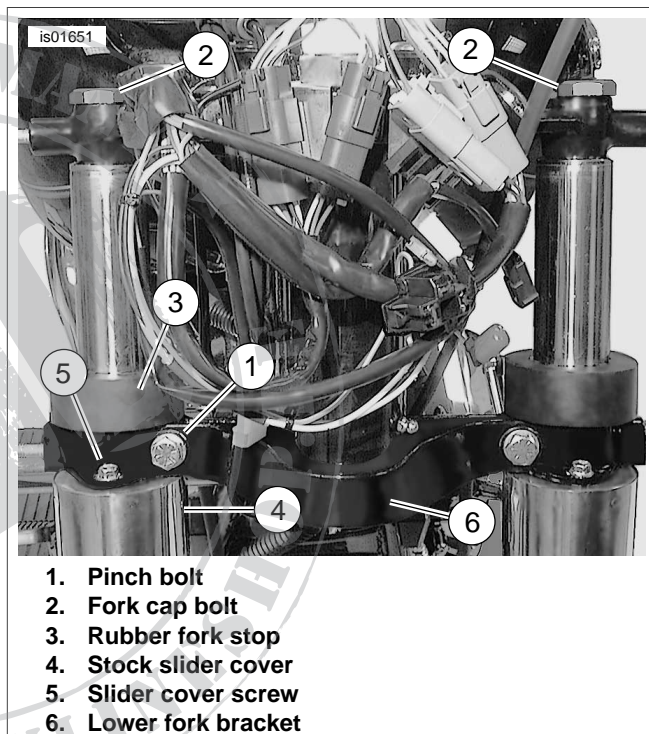

Figure 1. Fork Components (FLHR/C/S Shown)
3. See Figure 1. Standing at front vehicle, loosen pinch bolt (1) (with lockwasher) on left side of lower fork bracket, but do not remove.
4. Loosen fork cap bolt (2) from fork tube plug at top of fork tube, but do not remove at this time.
5. Spray glass cleaner on fork tube above the rubber fork stop (3). After lubricating surface, move rubber fork stop up fork tube until it contacts bottom of upper fork bracket.
6. Holding fork slider to prevent fork from dropping, remove fork cap bolt (2) from fork tube plug. Slide fork tube down and out of upper fork bracket, rubber fork stop (3), lower fork bracket (6) and slider cover (4).
7. Thread fork cap bolt (2) back onto fork tube plug to prevent loss of fork oil while handling.
10. See Figure 1. Unthread the fork cap bolt (1) from the fork tube plug.
11. See Figure 1. Standing at front of vehicle, slide fork through new slider cover, lower fork bracket (6), fork stop (3), and upper fork bracket. Install fork cap bolt (2).